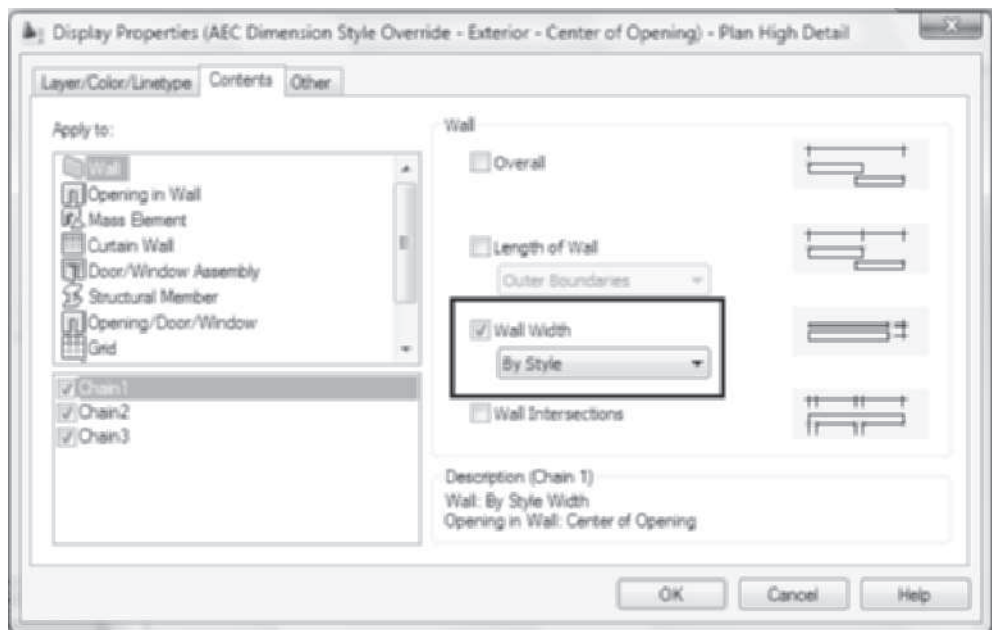

FIGURE 11.24 Method of dimensioning wall width in AEC Dimension style
8. Select the AEC Dimension placed in step 6 and choose **Edit Style** from the General panel of AEC Dimension tab. Choose the **Display Properties** tab of the AEC Dimension Style Properties – Exterior – Center of Opening dialog box. Verify that **Plan High Detail** is selected and choose the **Edit Display Properties** button at the right. Choose the **Contents** tab. Choose **Chain 1** and **Wall** in the Apply to window as shown in Figure 11.24. Verify that the **Wall Width** is specified as **By Style**. Click **OK** to dismiss all dialog boxes.